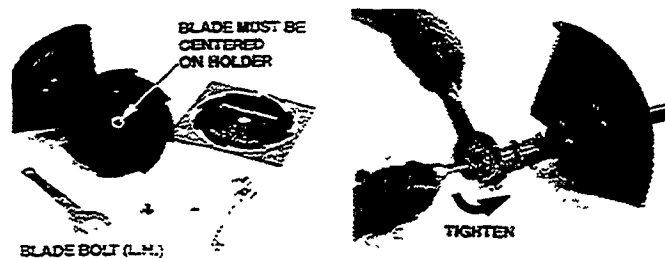

Figure 7
Remove bolt (LH), star washer and small flat washer at the bottom of gear case (Figure 7).
- Remove holder (B) and place blade on holder (A) making sure that arbor hole in blade is centered on the arbor embossment on holder (A).
- Install holder (B) making sure that the splines line up and holder is completely seated.
- Re-install small flat washer, star washer, and bolt (Note bolt is left hand thread) and is turned counterclockwise to tighten (Figure 7).